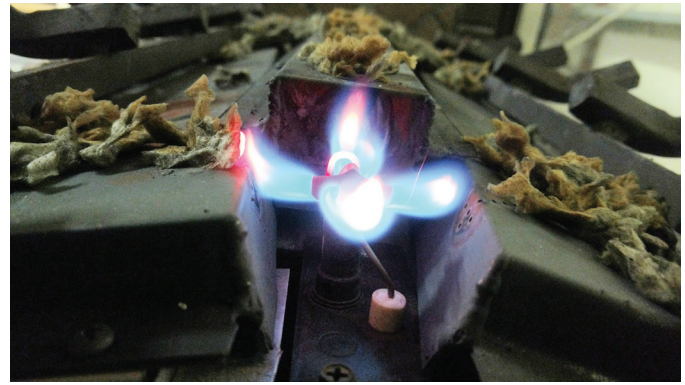

Figure 4.3 IPI Pilot Flame Patterns
- Inspect pilot flame pattern and strength. See Figures 4.3 for proper pilot flame pattern. Clean or replace orifice spud as necessary.